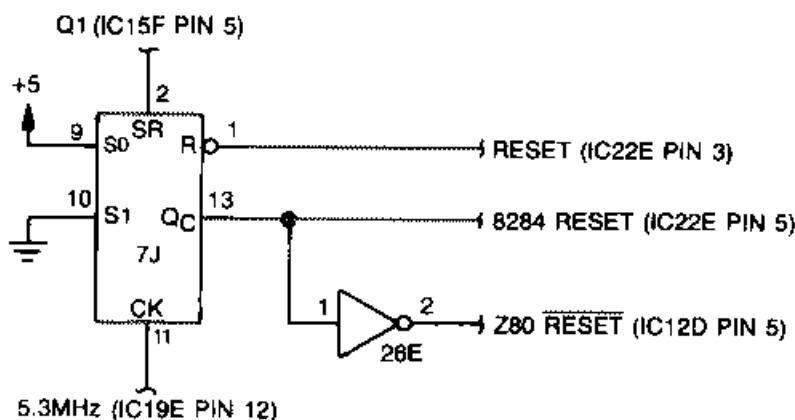

FIGURE 2-17. CPU SELECT CIRCUIT
2.3.1.3 CPU Select Circuit (Figures 2-17 and 2-18)